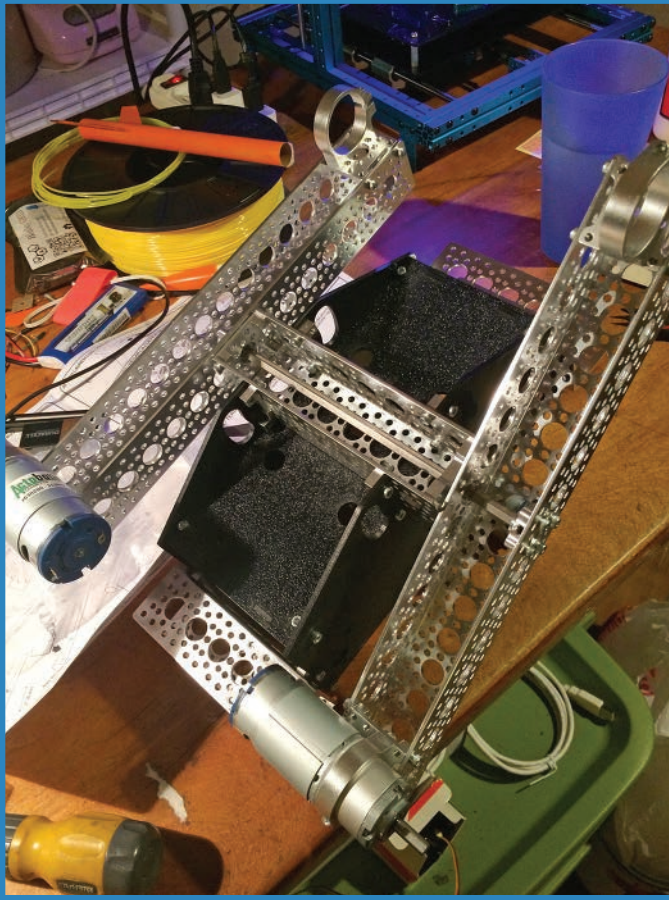

FIGURE 13.16 Attach the other 12" channel.
7. Attach the other 12" channel, giving it its own bearing to support the other end of the axle, as shown in Figure 13.16. This channel doesn't move, which might alarm people, but it makes sense—if both wheel-mounts moved, the chassis would fall to one side or the other.